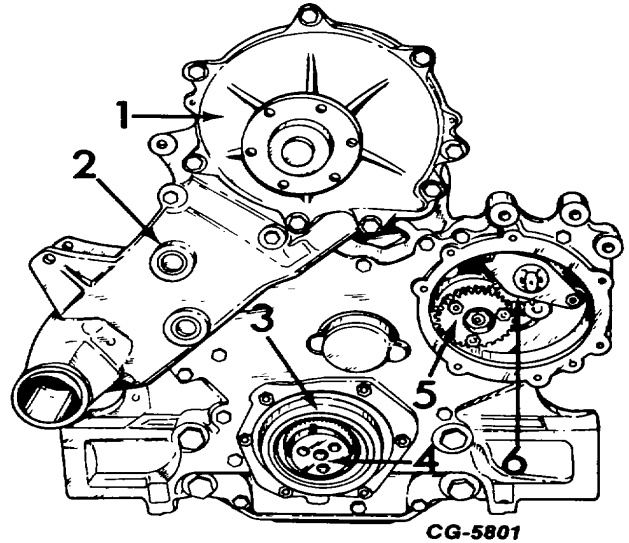

Figure 4. - Crankcase Front Cover - Engines equipped with UTDS* Model 100 Fuel Injection Pump
For engines equipped with UTDS* Model 100 Fuel Injection pump, the tachometer (6) is fastened by two nuts and a thrust plate, as shown in Fig. 4.
The idler gear is supported on a set of tapered roller bearings. The camshaft gear is keyed to the shaft and held in place by a press fit. The injection pump gear (5 or 7, Fig. 4 or 4a) is fastened to the pump shaft by means of a hub.
The Crankcase Front Cover (2, Fig. 4 or 4a) serves many purposes. In addition to housing the gear train, the front cover carries the water pump (1), lube oil pump (3) and fuel injection pump (not shown).